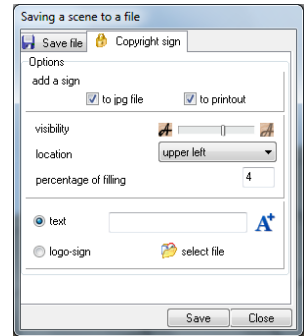

Fig. 473 – adding a copyright sign
- **Saving a scene to a file** window will open, in which you can add a signature or logo and set its location, size and percentage of filling (transparency level) (the **Copyright sign** tab) (Fig. 473);